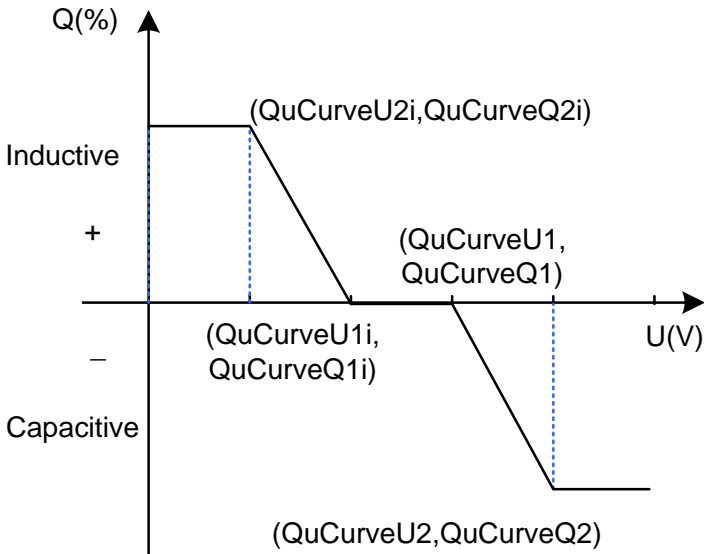

Figure 4-20 Q(U) Curve Mode
3. Q(U) Curve : Q(U) curve mode. Using the curves to set the reactive power setpoints (See Figure 4-20). The reactive power compensation changes according to the grid voltage. These functions are only available for IEEE-1547 grid standards.